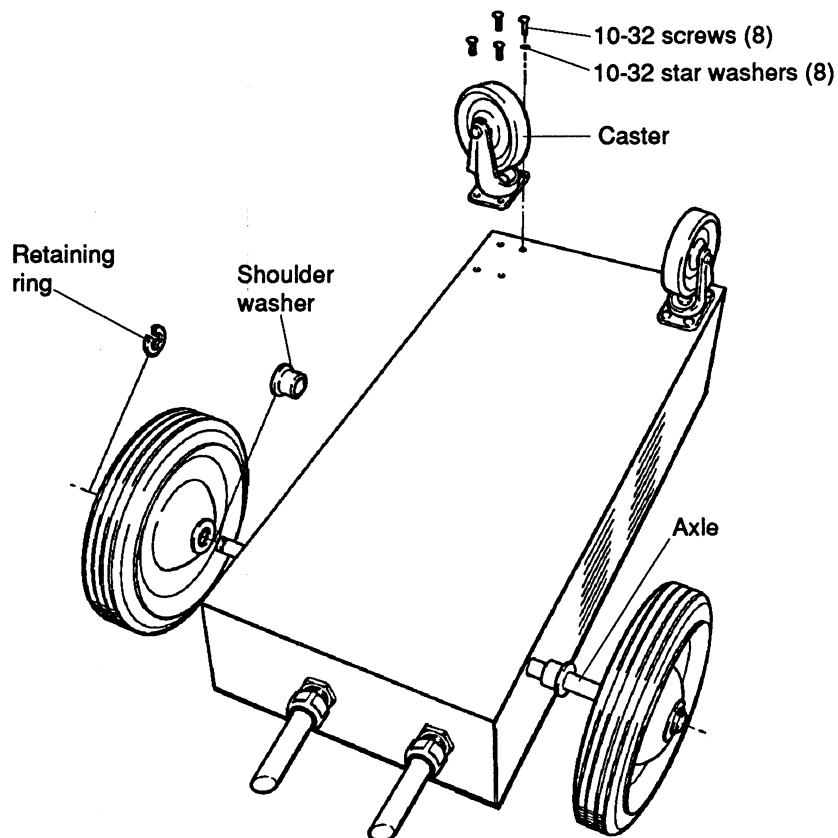

Figure 2-2 Wheel and Caster Installation
1. Attach caster to case with 10-32 screws and star washers as shown in Figure 2-2.